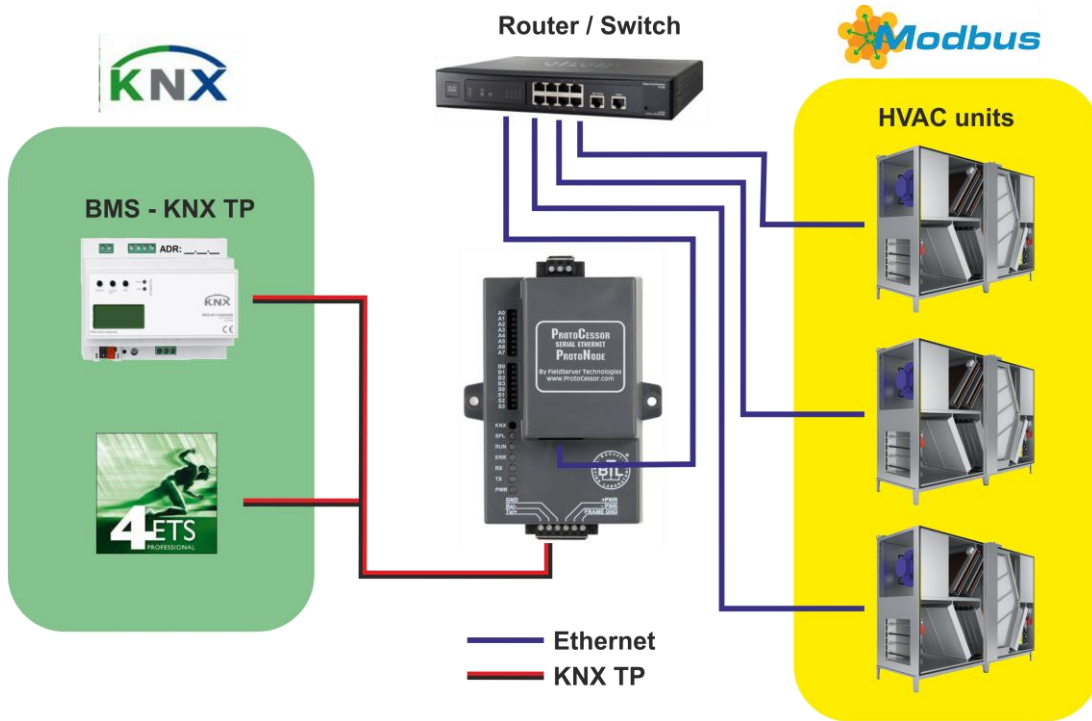

Fig 3: The KNX TP topology
- See the table in fig. 3 for the switch settings to select BACnet IP, BACnet MS/TP or KNX.